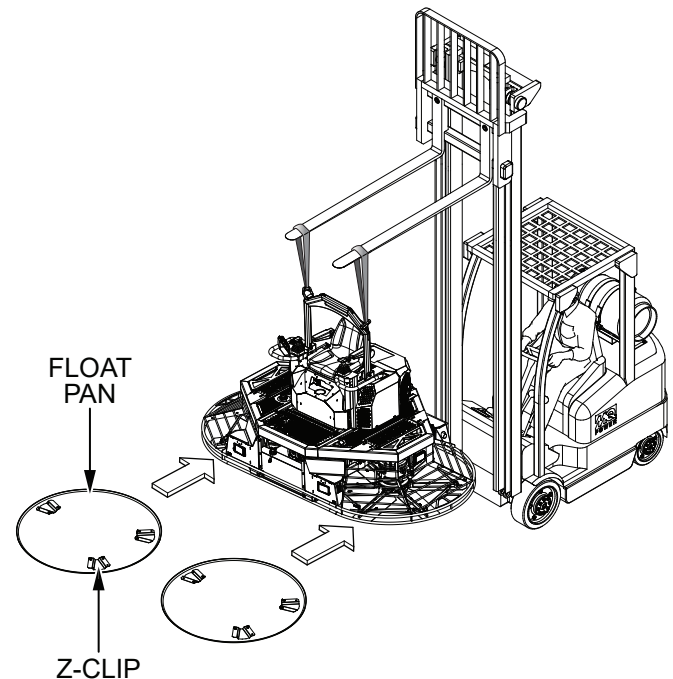

Figure 87. Float Pan Positioning
2. Lift the trowel just enough to slide float pans with Z-clips under the blades (Figure 87). Slowly lower the trowel onto the pans with the blades adjacent to the Z-clips.